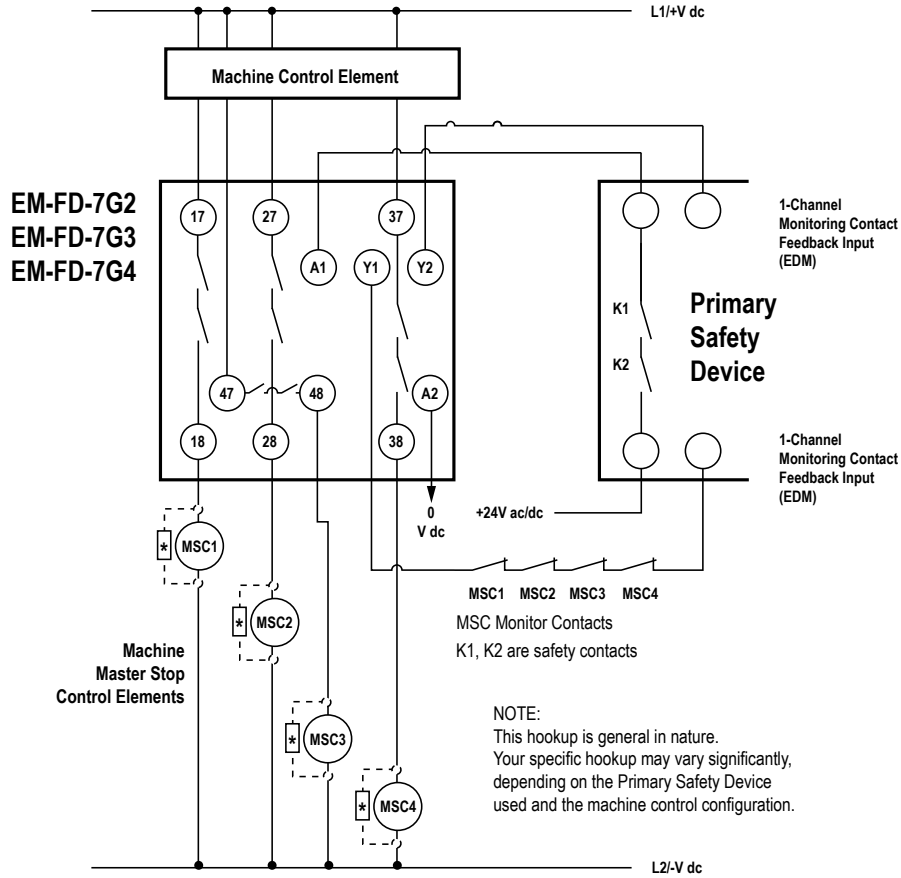

Figure 1. Generalized EM-FD-7G Series Connection Diagram
The Safety Extension Module offers an output circuit at terminals Y1 and Y2 which provides K1 and K2 contact status information for connection to the monitoring input of the Primary Safety Device (see Figure 1 on page 5). This monitoring circuit prevents the Primary Safety Device from being reset if contacts of either K1 or K2 of the Extension Module fail in a shorted condition.
To satisfy the requirements of control reliability, all MSCs must offer at least one normally closed forced-guided monitor contact. One normally closed monitor contact from each MSC is wired in series to the monitoring contact feedback input of the Primary Safety Device, as shown in Figure 1 on page 5. In operation, if one of the switching contacts of any MSC fails in the shorted condition, the associated monitor contact will remain open. As a result, it will not be possible to reset the Primary Safety Device.
**NOTICE** regarding MSCs. To achieve control reliability, two redundant Master Stop Control Elements (MSCs) are required to control each machine hazard. Each MSC must be capable of immediately stopping the dangerous machine motion, irrespective of the state of the other. Some machines offer only one primary control element. For such machines, it is necessary to duplicate the circuit of the single MSC to add a second MSC. MSCs must offer at least one forced-guided auxiliary contact which is wired to the monitoring contact feedback input of the Primary Safety Device (see Figure 1 on page 5).